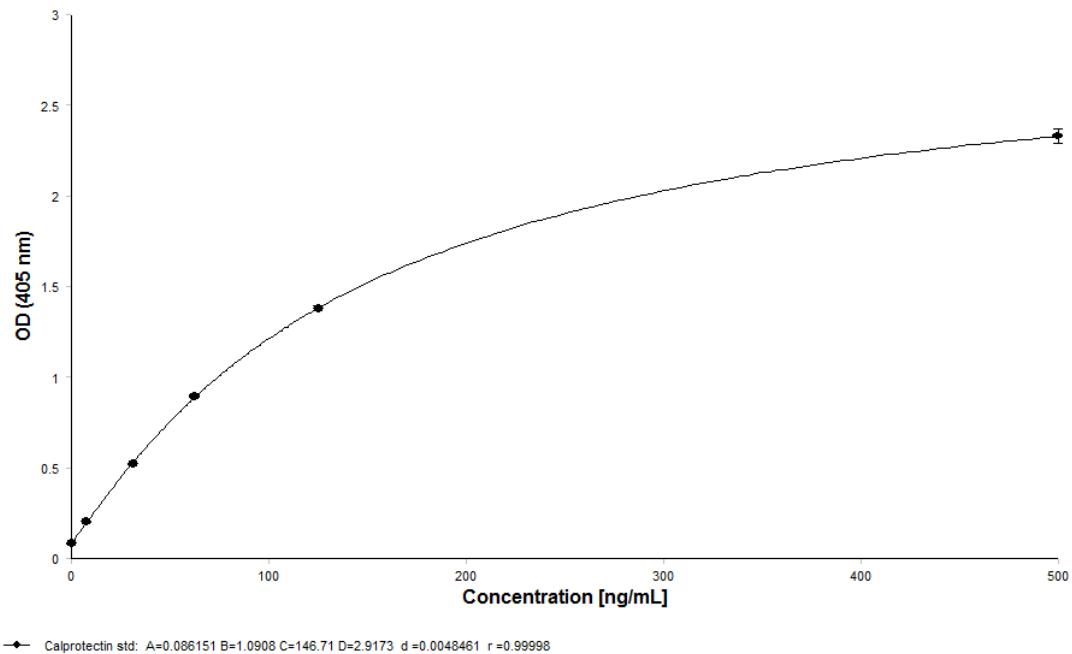

Figure 1: A representative standard curve using 4-parameter curve fit.
- The OD value of Standard F (500 ng/mL) should be ≥ 1.6 and the OD value of Standard A (0 ng/mL) should be ≤ 0.25. A representative standard curve is shown in figure 1.
2. Plot the value of each standard concentration (ng/mL) on the x axis against its mean OD value on the y axis to obtain a standard curve. **A 4-parameter curve fit function is recommended** (see figure 1 below). If a logarithmic x axis is required, a value of 0.001 ng/mL must be used for standard A (0 ng/mL).